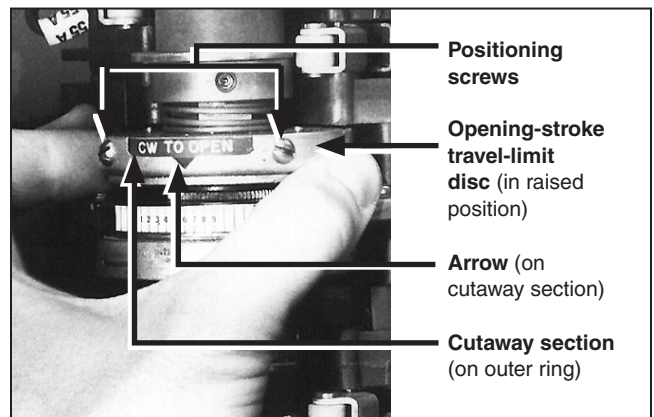
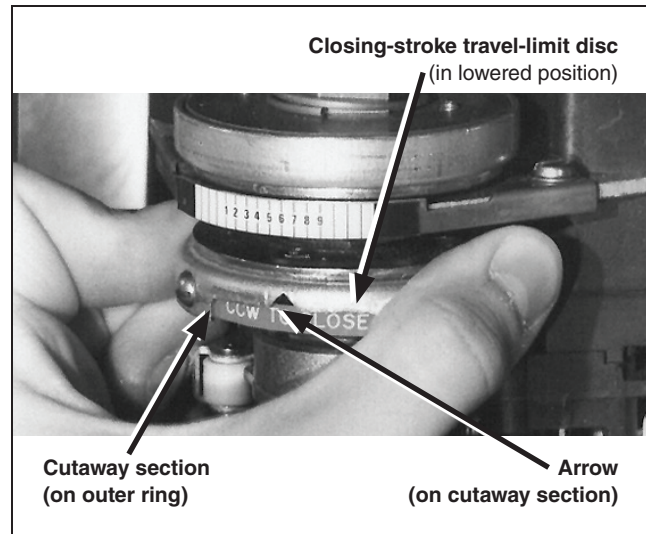

Figure 65. Make sure the cutaway section indicates the correct direction of rotation (Opening-stroke disc).
Figure 66. Make sure the cutaway section indicates the correct direction of rotation (Closing-stroke disc).
- (d) Make note of the direction in which the travel-limit discs rotate when the switch operator closes. The direction should agree with the temporary direction mark on the top of the enclosure and the direction displayed in the cutaway section on the outer ring of the travel-limit discs. See Figure 65 and Figure 66 on page 40.
If the direction of rotation of the travel-limit discs noted in Step 5 on page 39 is opposite to the direction displayed in the cutaway section on the outer ring of the closing-stroke travel-limit disc: Remove the positioning screws on the outer ring of the closing-stroke travel-limit disc. See Figure 66. Rotate the outer ring until the desired direction is displayed in the cutaway section. Replace the positioning screws.
Remove the positioning screws on the outer ring of the opening-stroke travel-limit disc. See Figure 65 on page 39. Rotate the outer ring until the desired direction is displayed in the cutaway section. Replace the positioning screws.